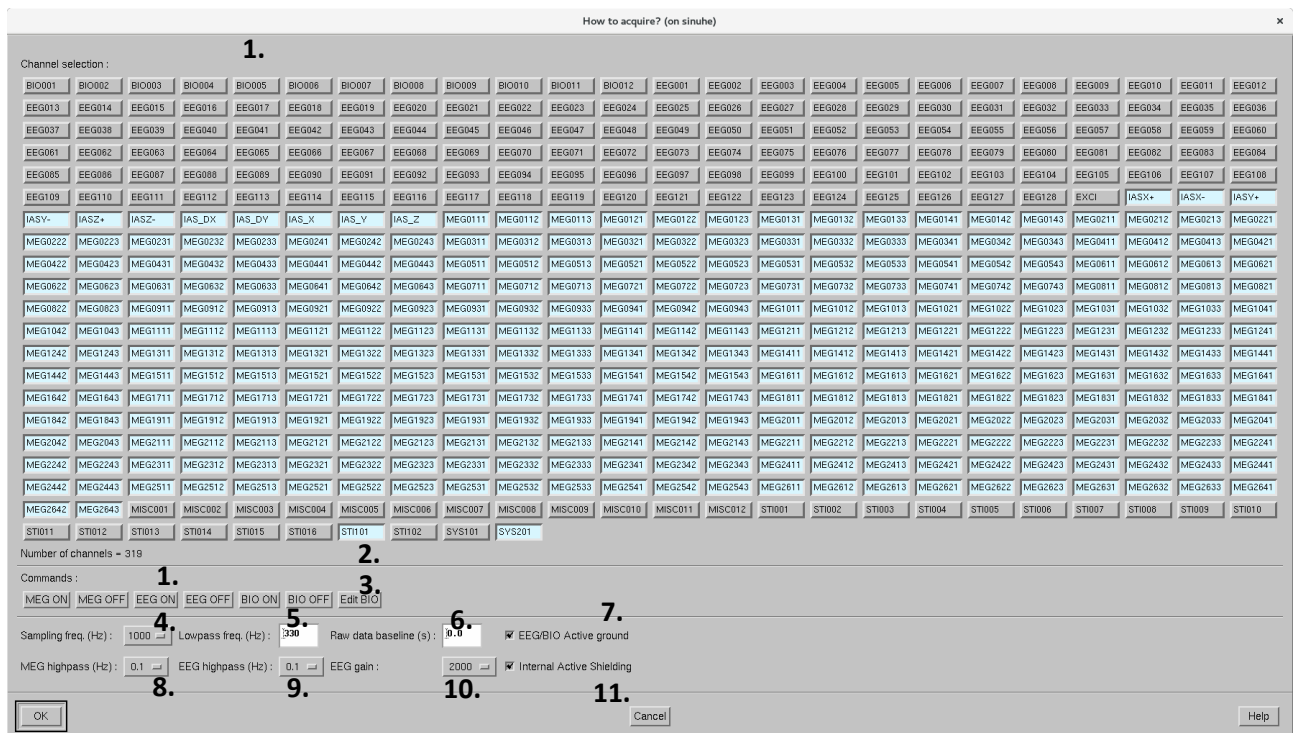

Figure 23. Channel acquisition parameters.
- Select **Change** next to **Acquisition** in Figure 2 to open acquisition parameters dialog which contains selections (Figure 23):